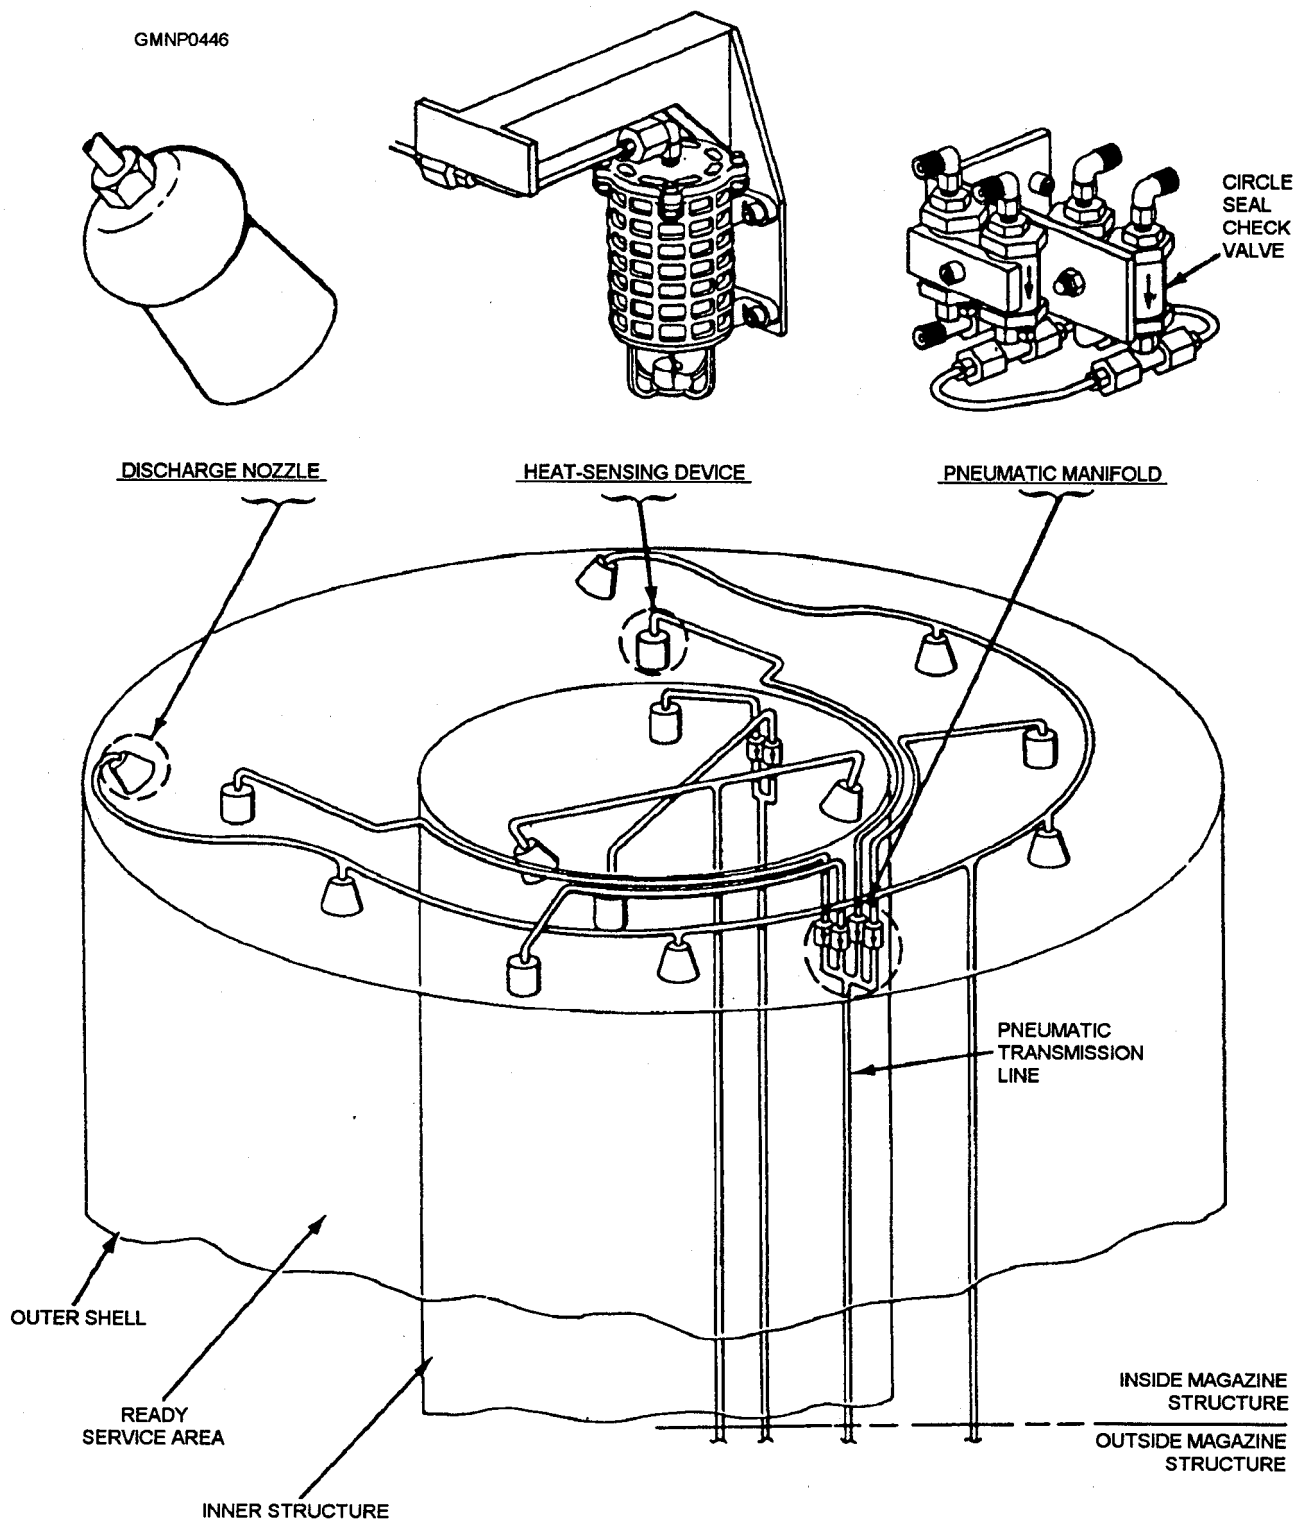

Figure 8-20.—Components of a CO2 system, inside magazine structure.
**HEAT-SENSING DEVICES.**— Heat-sensing devices (HSDs) were formerly designated thermosyphon units. HSDs are the detecting units of the system (fig. 8-20). They are designed to develop a pneumatic pressure signal when space temperature increases to a preset activating point. The rate of rise in space temperature maybe rapid or slow.
**Circle Seal Check Valves.**— The circle seal check valve (shown in fig. 8-20) is a brass, spring-loaded check valve. It closes against a rapid change of air pressure in one direction and opens when air pressure is applied in the other direction. One circle seal check valve is installed in each transmission line leading from an HSD. The valve is installed with its directional arrow (stamped into the body) pointing toward the control head.
**DISCHARGE NOZZLES.**— CO2 discharge nozzles are installed so that their discharge blankets certain key electrical components. The nozzles are also located so that the entire area they serve is flooded with CO2. The nozzle is a bell-shaped device (fig. 8-20)